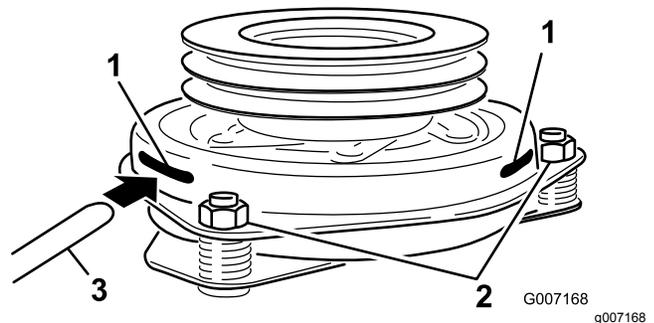

Figure 79
9. Insert a 0.381 to 0.533 mm (0.015 to 0.021 inch) feeler gauge through an inspection slot in the side of the assembly (Figure 79).
10. Tighten the locknuts until there is slight binding on the feeler gauge but it can be moved easily within the air gap (Figure 79).